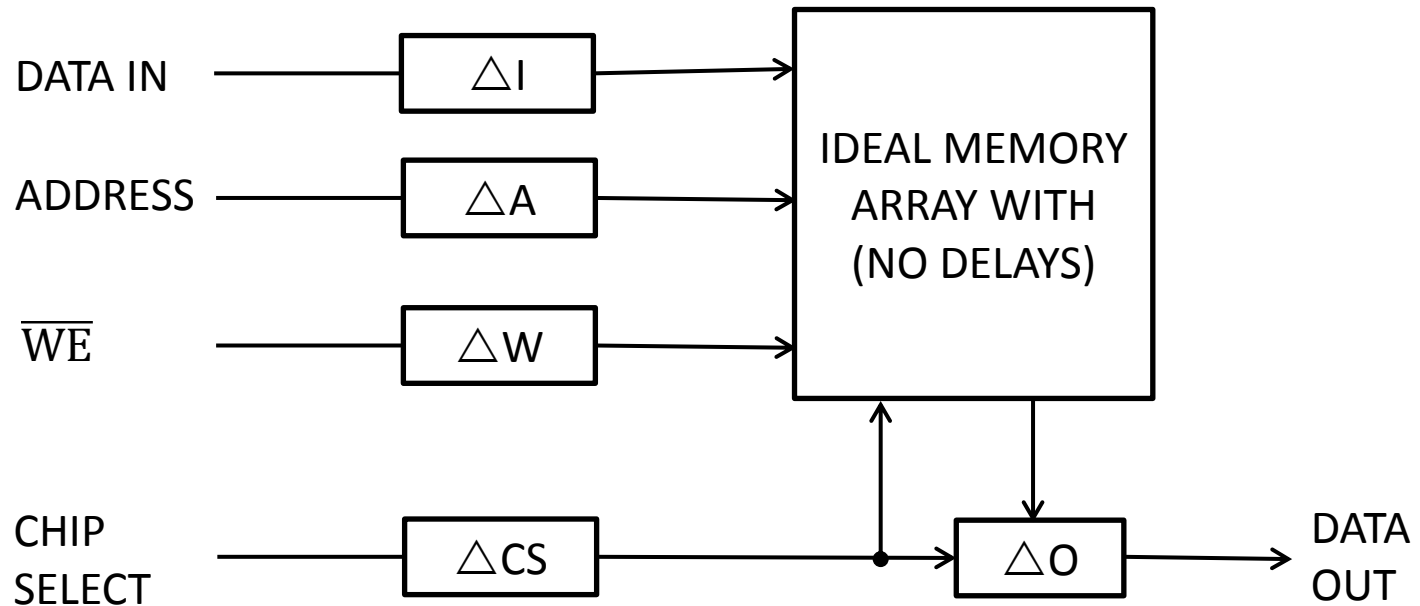

Figure 2.6.2: Lumped delay memory model for a write operation
- Figure 2.6.2 depicts a model of an ideal SRAM (with no delays in signal propagation for a write operation).